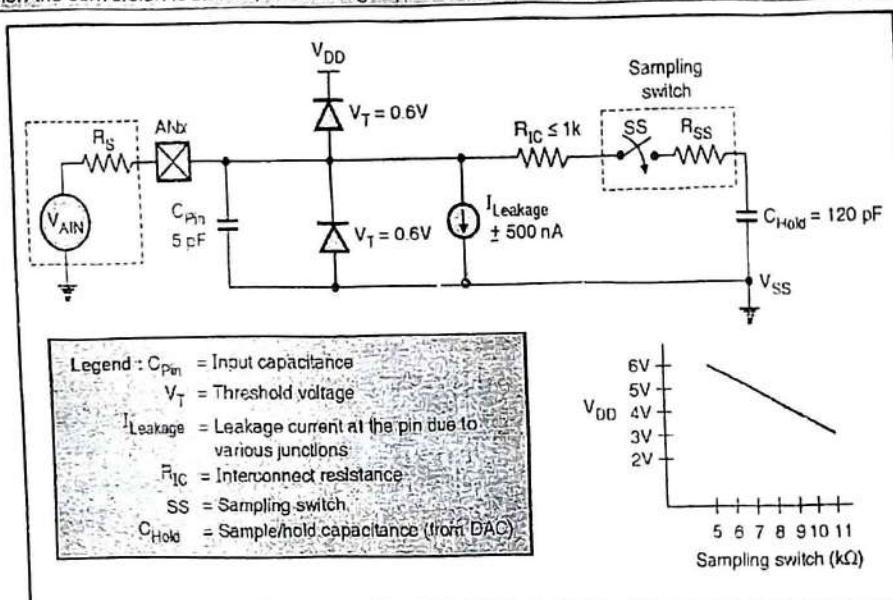

Fig.10.3.1 : Analog Input Model
- For the A/D converter to meet its specified accuracy, the charge holding capacitor (C_{Hold}) must be allowed to fully charge to the input channel voltage level. The analog input model is shown in Fig. 10.3.1.